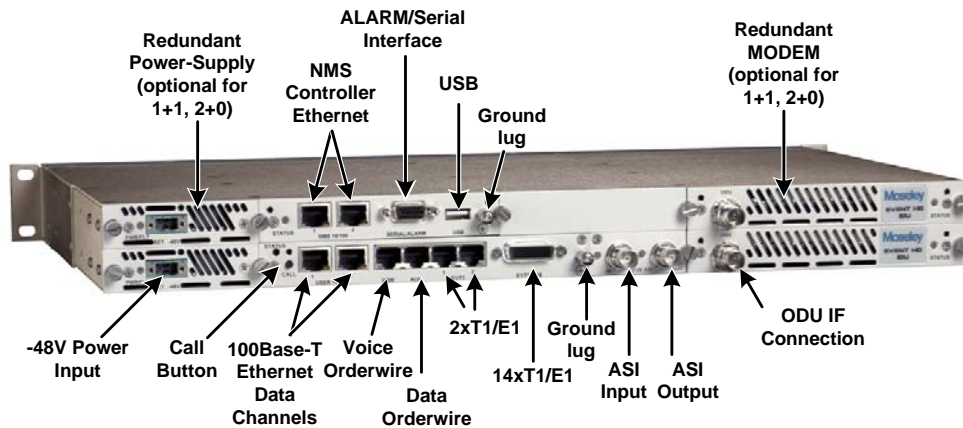

Figure 3-18. Software Defined IDU™-SB, 1 + 1 Protection, Rear Panel Connections
7. Connect the SDIDU™ to the laptop computer, using a Cat-5 Ethernet cable or connect the SDIDU™ to a computer network, using a Cat-5 Ethernet cable. Connect the Ethernet cable to **the NMS 1 or 2** connector on the SDIDU™ rear panel. Refer to Figure 3-18 for the SDIDU™ rear panel connections.